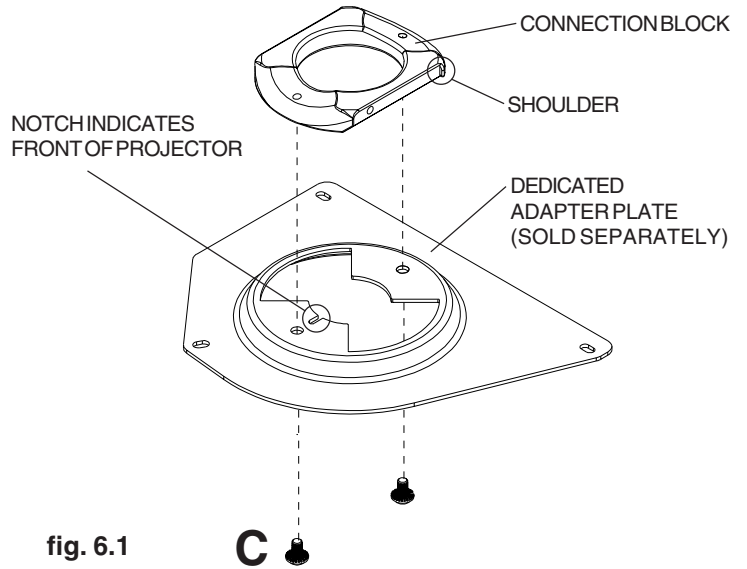

fig. 6.1
Align shoulder on connection block opposite notch in adapter plate. Attach dedicated adapter plate to connection block from projector mount assembly (A) using two #10-32 x 3/8" serrated washer head socket pin screws (C) as shown in figure 6.1.